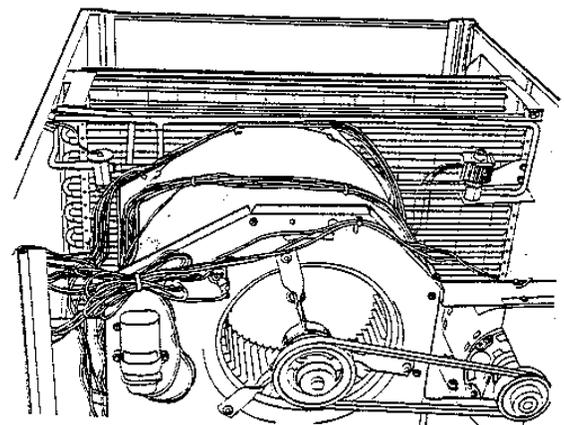

FIGURE 2
2. Check fan and belt rotation by turning on disconnect for one to two seconds. See Figure 2 on following page. If fan is rotating in the wrong direction, switch the power cable lines. An arrow is on the unit.
3. Replace evaporator fan access panel. See Figure 2.